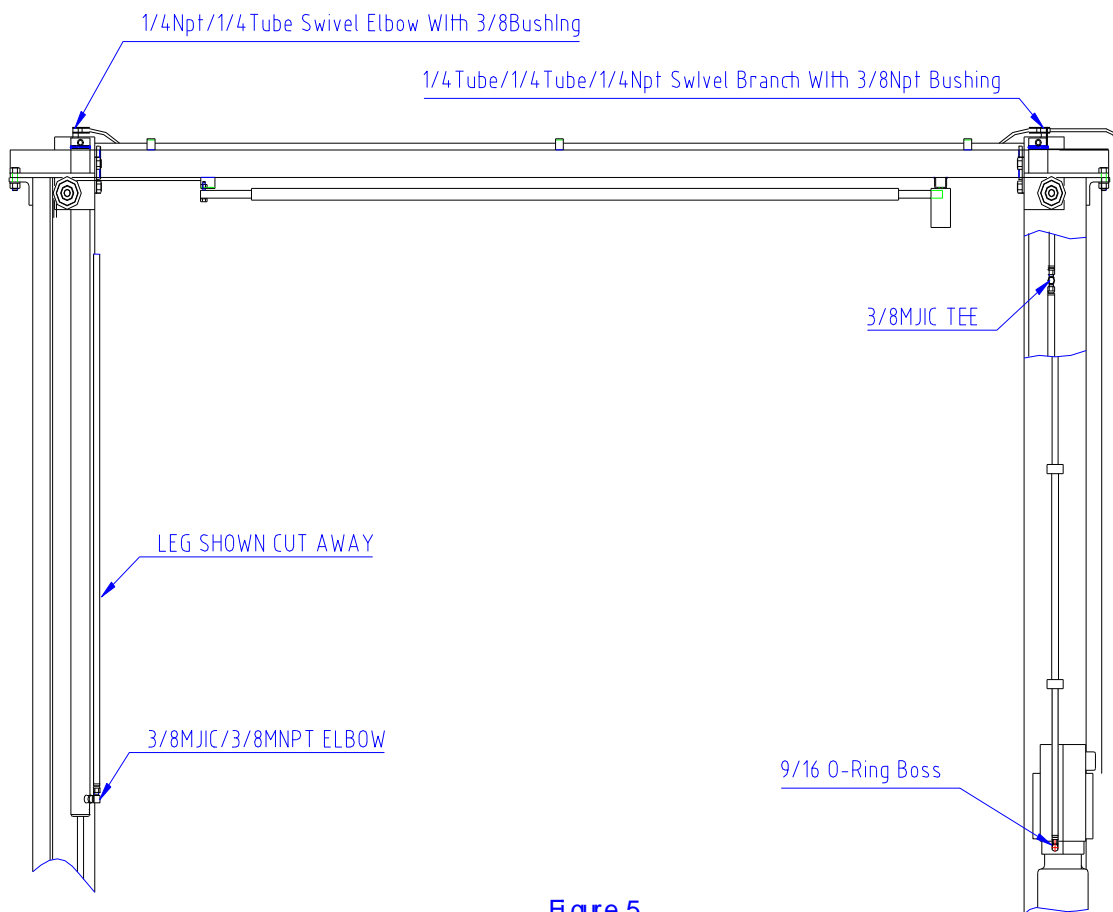

Figure 5
12. Hydraulic system, figure 5.